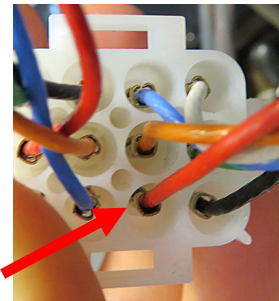

Figure 22
23. Insert the red wire into Pin 4 (see Figure 22).